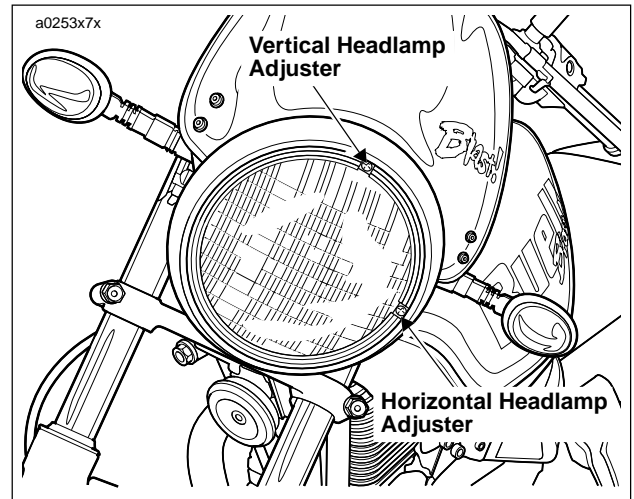

Figure 7-67. Headlamp Vertical/Horizontal Adjusters
- c. See Figure 7-67. Turn vertical headlamp mounting adjuster clockwise to raise beam height.
- d. See Figure 7-67. Turn horizontal headlamp mounting adjuster clockwise to change lateral alignment.